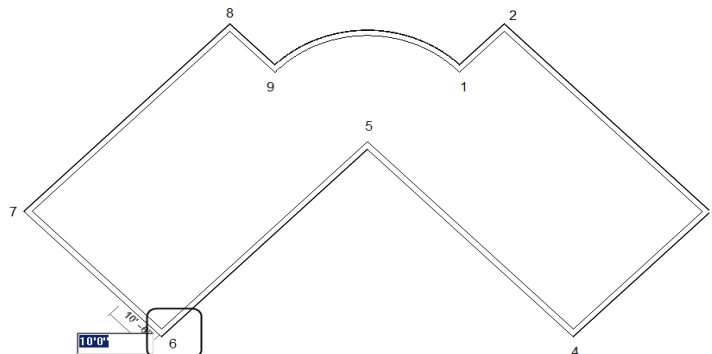

Figure 3-69 Specifying the start point of the first interior wall
3. Move the cursor close to the lower left corner, marked as 6, refer to Figure 3-69, and traverse upward along the centerline of extreme left wall of the building profile. When the temporary dimension appears, enter the value **10'(3048 mm)** and press ENTER to start the interior wall profile from the specified point, as shown in Figure 3-69.